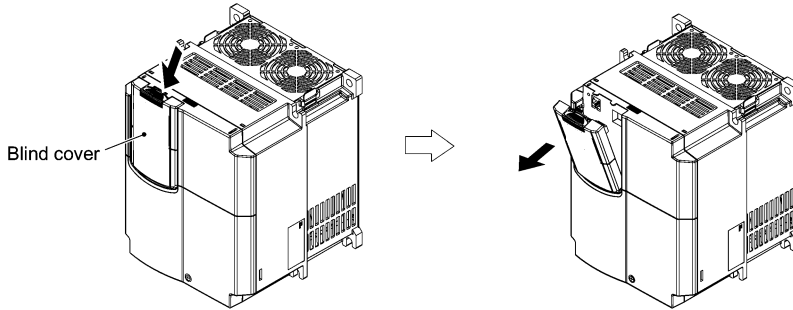
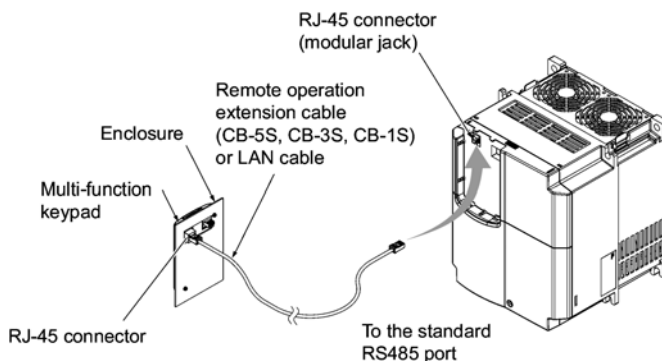

Figure 2.4 Removing the Blind Cover
Figure 2.9 Connecting Multi-function Keypad to the Inverter with Remote Operation Extension Cable or an off-the-shelf LAN Cable
Pull the blind cover toward you while holding down the hook (as directed by the arrows in Figure 2.4 below).
- ③ Remove the blind cover mounted on the inverter (see Figure 2.4) and, using a remote operation extension cable or a LAN cable, interconnect the multi-function keypad and the inverter (insert one end of the cable into the RS485 port with RJ-45 connector on the multi-function keypad and the other end into that on the inverter) (See Figure 2.9.).